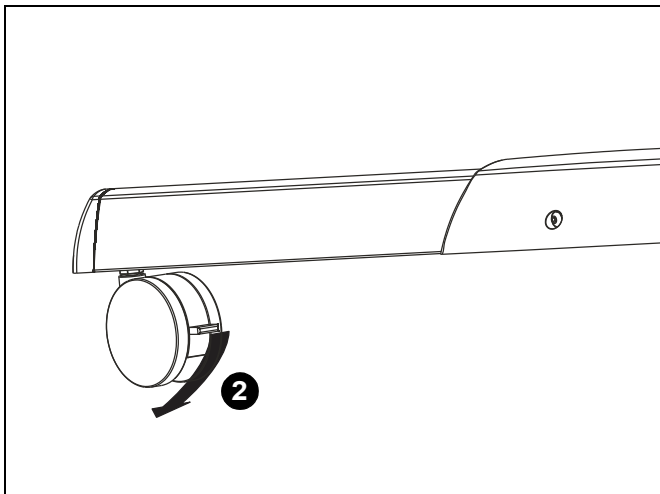

Figure 24
2. Always lock the wheels when the cart is not moving by pressing down the locks on wheels. (See Figure 24)